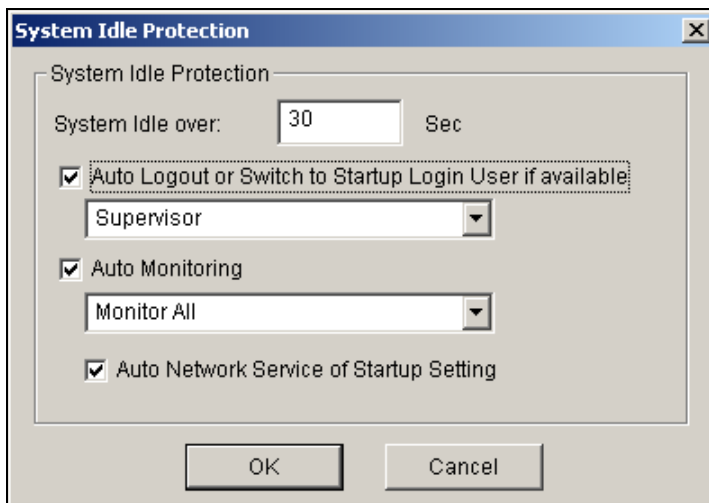

Figure 1-39
4. In the System Idle Protection dialog box (Figure 1-39), select the **Auto Logout or Switch to Startup Login User if available** option, and then select **Supervisor** or **Supervisor, Poweruser** from the drop-down list.
1. In the System Idle Protection dialog box (Figure 1-39), select the **Auto Monitoring** option, and select **Monitoring All**, **Schedule Monitoring** or **I/O Monitoring** from the drop-down list.